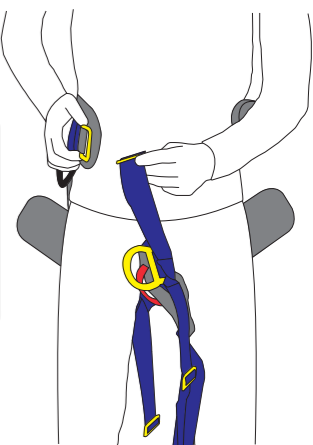

Fig. 3
3. Take hold and fit one of the two front waist adjuster buckles, then repeat with the other buckle. Centralise pad, belay loop and dee ring and adjust to fit comfortably Figs. 3 & 4. Fit waist buckle as shown in Figs. A - D & E - G